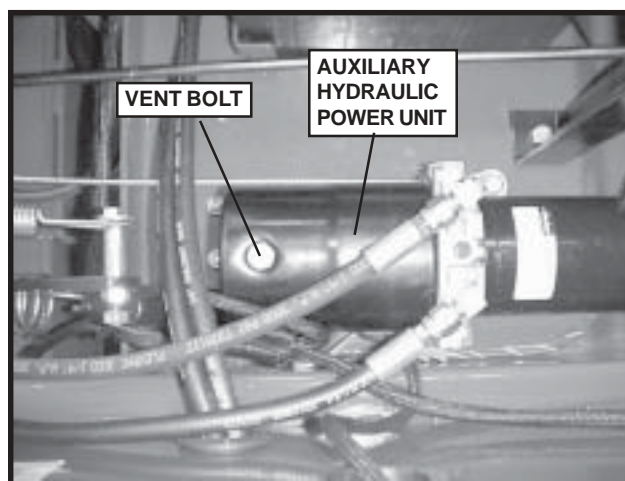

FIGURE 5
- Check the auxiliary hydraulic power unit located under the seat and add hydraulic fluid if necessary. Remove the vent bolt on the power unit and only fill to within 3/4 of an inch below the top. See Figure 5.